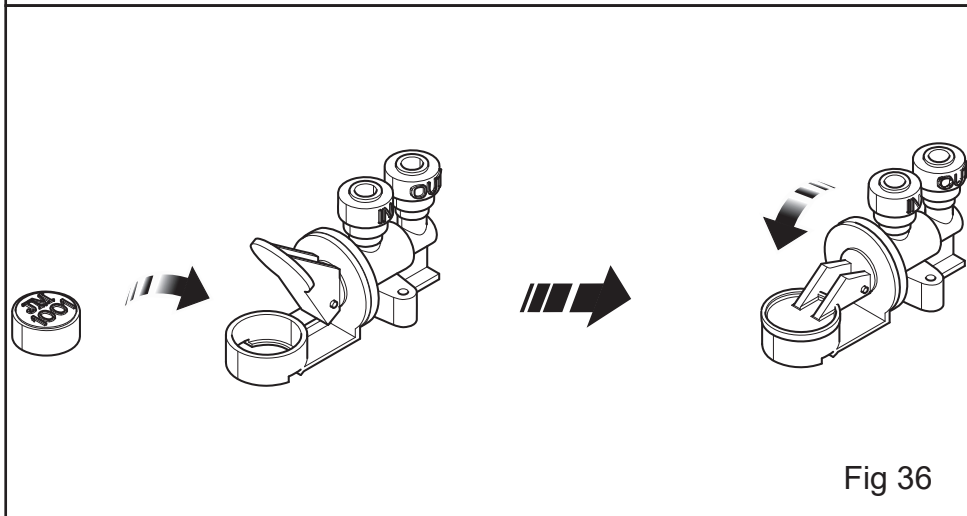

Fig 36
3. Disconnect the fill cap from its position on top of the sump (Fig 36) or remove water bottle if used (Fig 10 & 11).
4. Close the arm of the valve on top of the newly fitted valve (Fig 36).